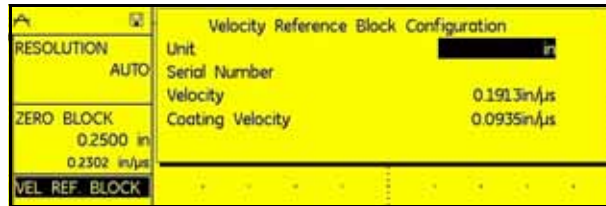

Figure 13: Velocity Reference Block Configuration Window
2. Use the joystick () to select the VEL. REF. BLOCK function, and to open the configuration window (Figure 13 below).